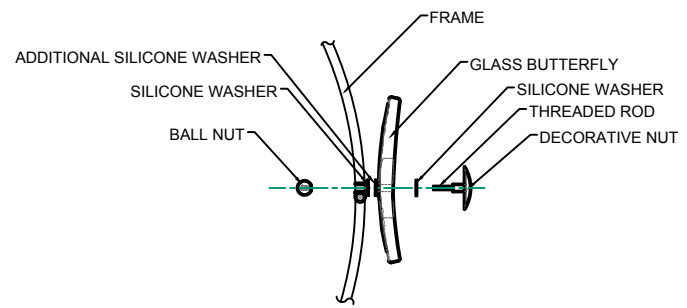

FIGURE-04
- Remove a small portion of glass (See Figure -04) near the lamp socket where a hand can be easily fit inside the fixture. Install the lamps. (type-A lamp)